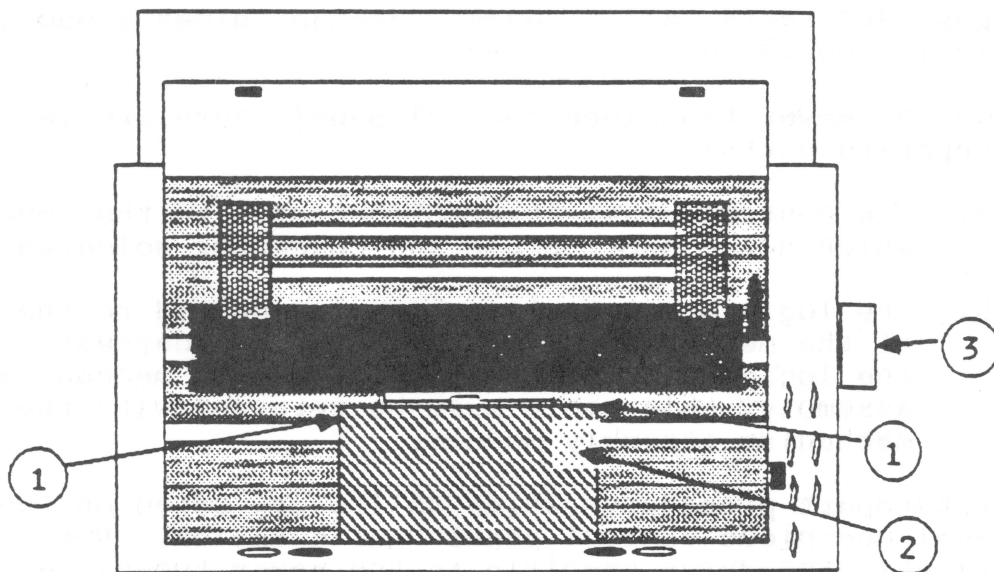

Figure 2
- a) Place your index fingers under the ribbon cassette, with one finger on each side, close to the platen (see Figure 2, #1).
**CAUTION:** The ribbon sensor is hidden under the cassette (see Figure 2, #2). Be sure that the finger on the right is under the **cassette** and not under the **ribbon sensor**.
5. Pull the platen knob (Figure 2, #3) off the platen shaft.